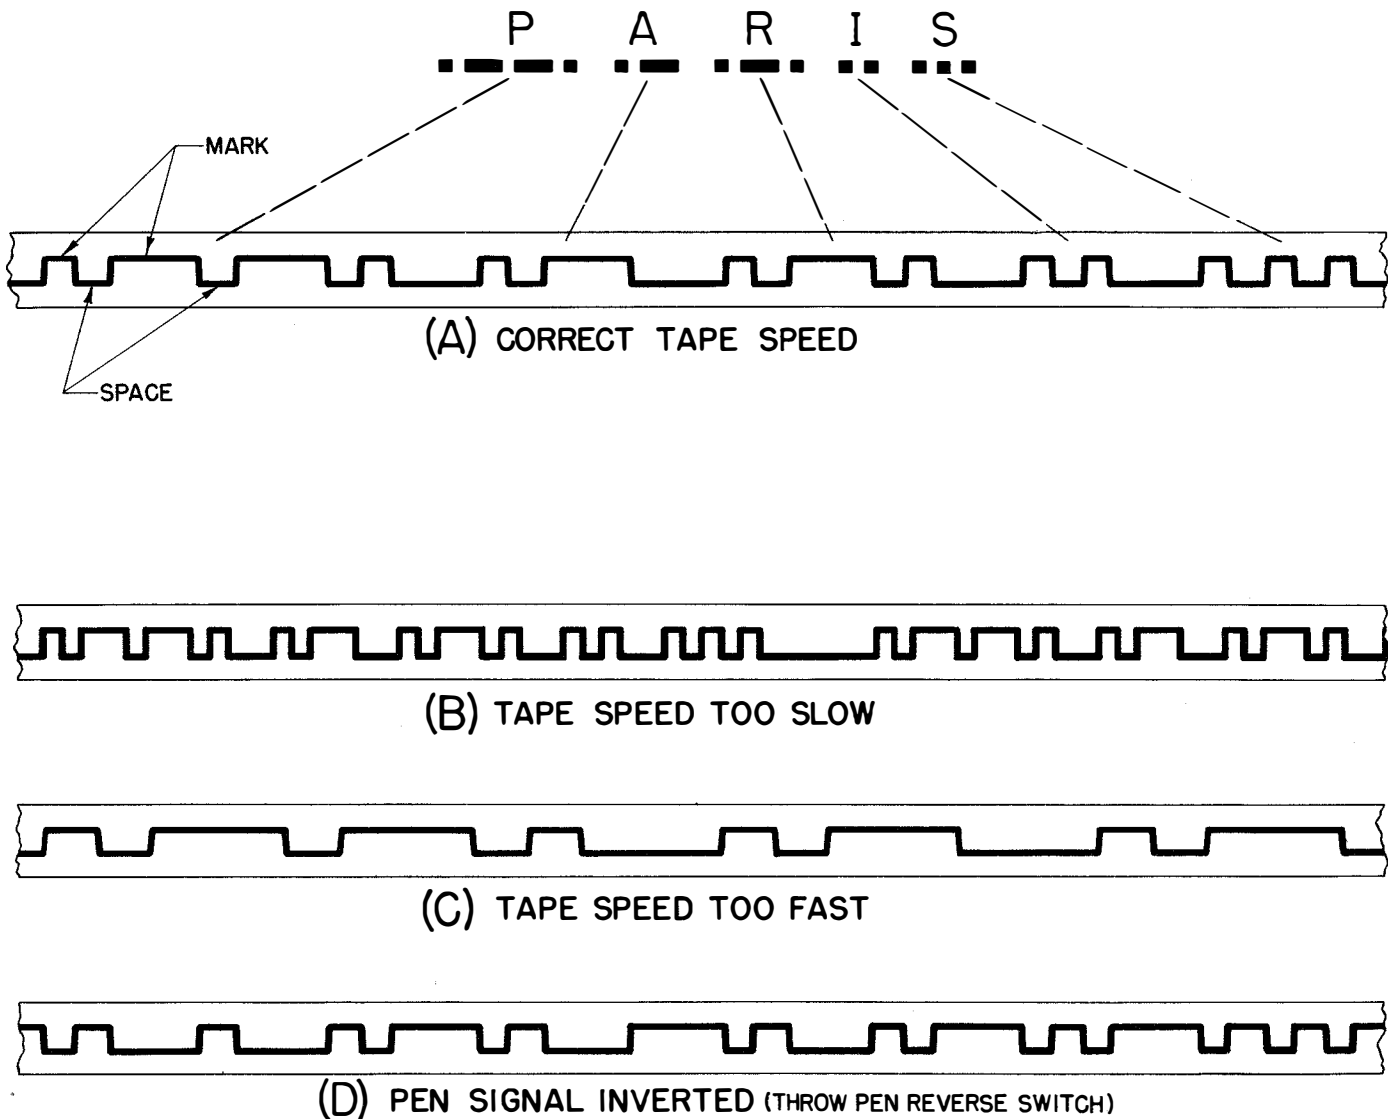

Figure 4-4. Recorded Signals
Step 9. If the coded characters appear on the tape upside-down as shown in (D) of Fig. 4-4, operate PEN REVERSE switch S-103 to its alternate position.
record line should appear as in (A) of Fig. 4-4 above. If the recording speed is either too slow or too fast with respect to the input signal, the transcription will appear as in (B) and (C) respectively of Fig. 4-4. A detent has been provided at a tape speed of 25 feet per minute and is easily detectable by the operator when the tape speed is varied through a speed of 25 feet per minute as indicated on the calibrated dial to the right of the speed control knob.
(1) If the recorder is being used to record intermittent transmissions with time intervals of less than one hour between transmissions, and it is desirable that the equipment be ready for immediate use the instant a new transmission begins, throw OPERATE-STANDBY switch to the "STANDBY" position at the termination of each recorded transmission. This removes power from the tape drive motor and the recording pen while allowing the amplifier tubes to maintain normal operating temperature. If the above procedure is used in shutting down the recorder, the unit will be ready for use as soon as the OPERATE-STANDBY switch is returned to the "OPERATE" position.
(2) If it is expected that the recorder will be out of service for a period of several hours, operate AC power switch to the "OFF" position. Gently close needle valve O-135. If this sequence of operations is followed, the ink hose and recording pen will remain filled with ink during the shutdown period. To resume normal operation, open needle valve and return AC power switch to the "ON" position. If an ink clot appears to have developed during the shutdown period, one complete turn of the ink pump knob should break the clotted seal and restore normal ink flow.
(3) If it is anticipated that the recorder will be out of service for a period of 24 hours or longer, close the needle valve at the termination of the final recorded transmission allowing the tape to continue running until the ink has been exhausted from the pen and hose. When the record line no longer appears on the tape, operate AC power switch to the "OFF" position and clean the recording mechanism as specified in paragraph 3 below.